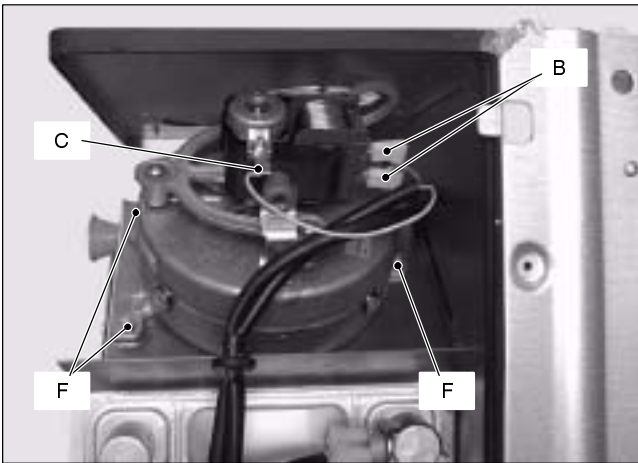

Fig. 68
- 2 Disconnect the connectors B (Fig. 68) and measure the electrical resistance of the motor that has to be about:
- 2 Disconnect the connectors *B* and the earth connection *C* (Fig. 68).
5 Remove the three screws *F* (Fig. 68) securing the Fan to the flue hood and remove the fan.